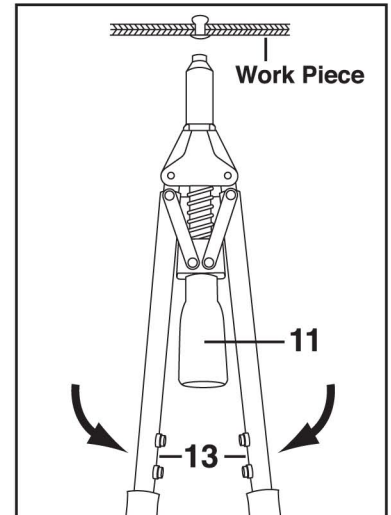

Fig.3
- 2) Squeeze 2 Handles (13) toward each other until Rivet Mandrel breaks off (Fig.3). If more than one squeeze is required, open 2 Handles (13) fully and push Nosepiece (2) to contact Rivet Head, then squeeze Tool Handles again.
- 3) Open 2 Handles (13) fully to eject Rivet Mandrel from Tool into Spent Mandrel Container (11). When Spent Mandrels fill Spent Mandrel Container (11) over 70% capacity, pull out Spent Mandrel Container (11) to clear off all Spent Mandrels, then put it back and fix it firmly.
■ HOW TO CLEAN AND CHANGE JAWS (5), JAW PUSHER (6) AND JAW PUSHER SPRING (7):